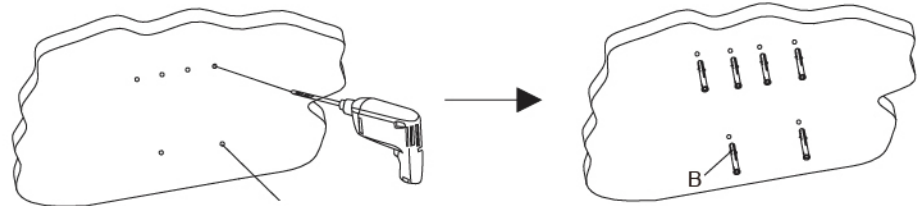
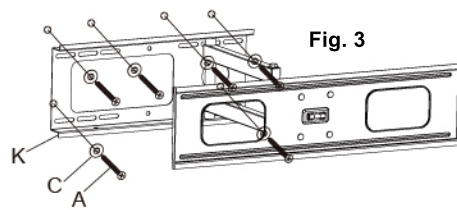

Fig. 1 Diameter 10mm
Fig. 3
Drill into the wall and place six 10x50 concrete anchors (B) into the holes as shown in Fig. 1 and 2. Next, attach the wall board (K) to the wall using six lag bolts (A) and spacers (C) as shown in the Fig. 3. Use a spirit level to ensure the wall board (L) installation is levelled.